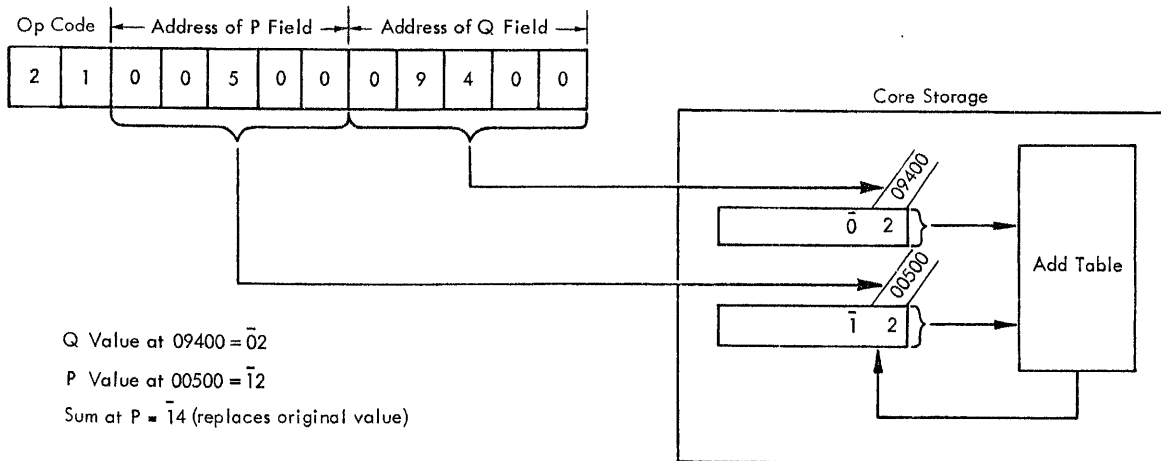

Figure 12. Add Instructions - Data Flow
In Figure 12, the sum (14) is "looked up" in the Add table and replaces the 12 at 00500 (P address). When the sum is zero, the sign of the P field is re-